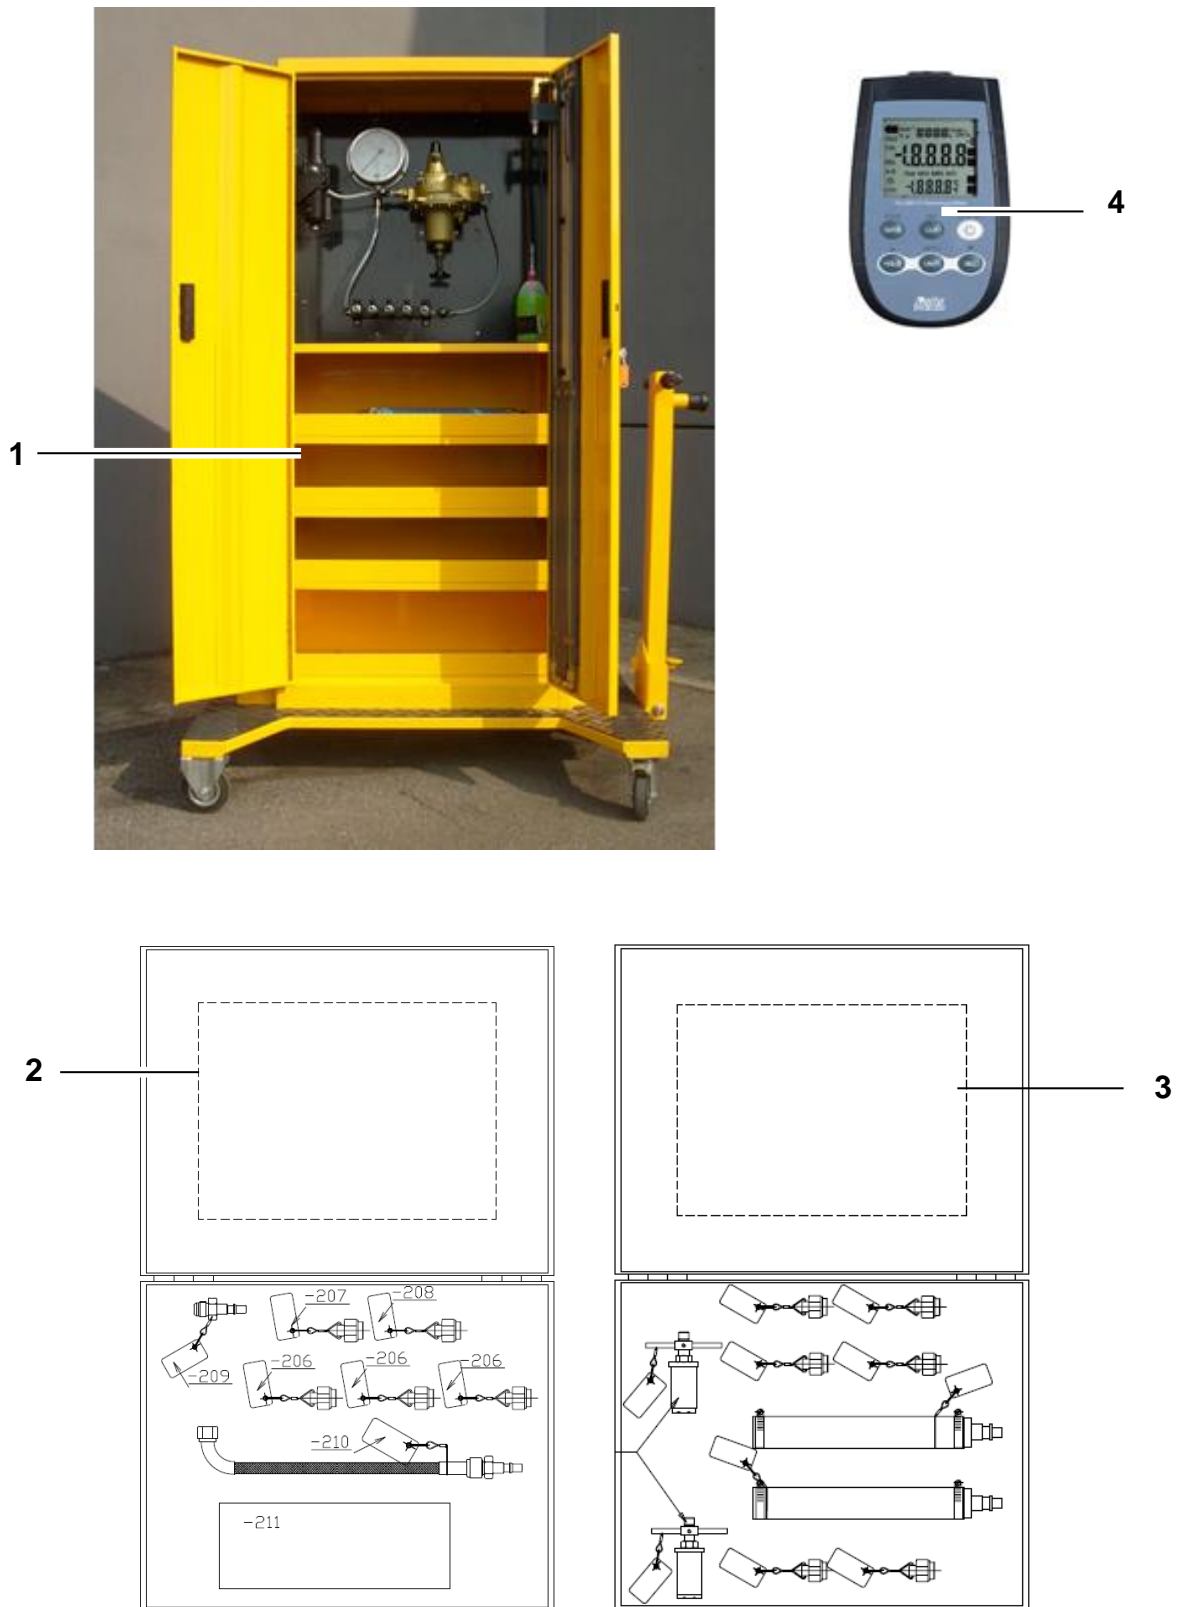

Fig. 1.1 APTS GB967-090-300
1.4 DESCRIPTION (ref. fig. 1.1)
COMPOSITION OF GB967-090-300 (Ref Fig 1.1):